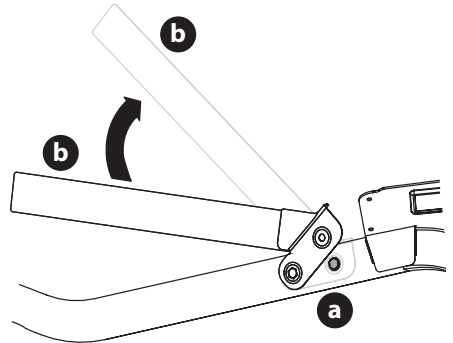

Fig. 4
1. Remove the two hex washer screws (a) partially installed on the frame (Fig. 4).
2. Rotate the upper hoop (b) into position (Fig. 4).